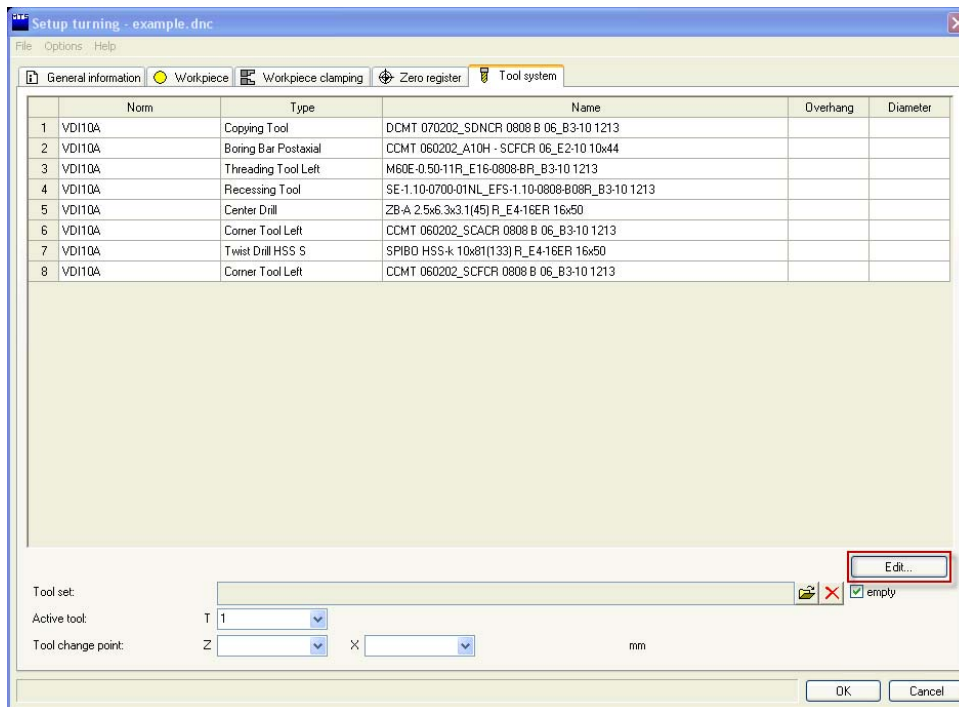

Fig. 2.14 Tool system tab
8. Click **“Edit”** as shown in Fig. 2.14 for tool selection.